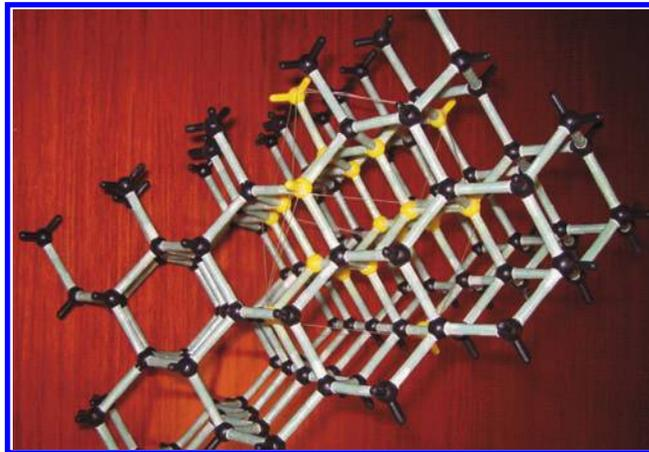

FIGURE 1.24
- Like most of the technologically important semiconductors, silicon atoms crystallize in a *“diamond”* structure (Figure 1.24), just like crystallized carbon (the true diamond!). This is a very stable and mechanically robust crystal configuration, and many of the desirable properties of silicon are directly linked to this underlying crystal structure.